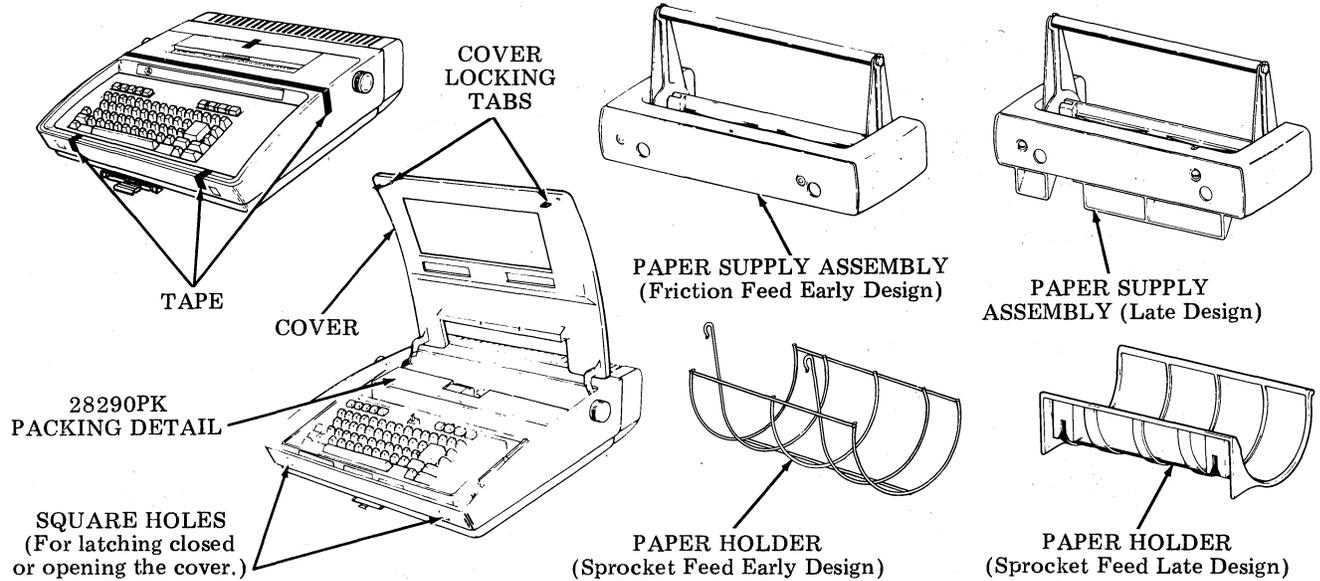

Fig. 2—Packing Detail
- 4.03 Unpack the terminal carton. Refer to instructions on the container. Remove tape securing the cover to the housing (Fig. 2).
- 4.04 Depress the cover locking tabs on the lower front of the cabinet and lift the cover. Remove the 28290PK packing detail securing the print head in place (Fig. 2).